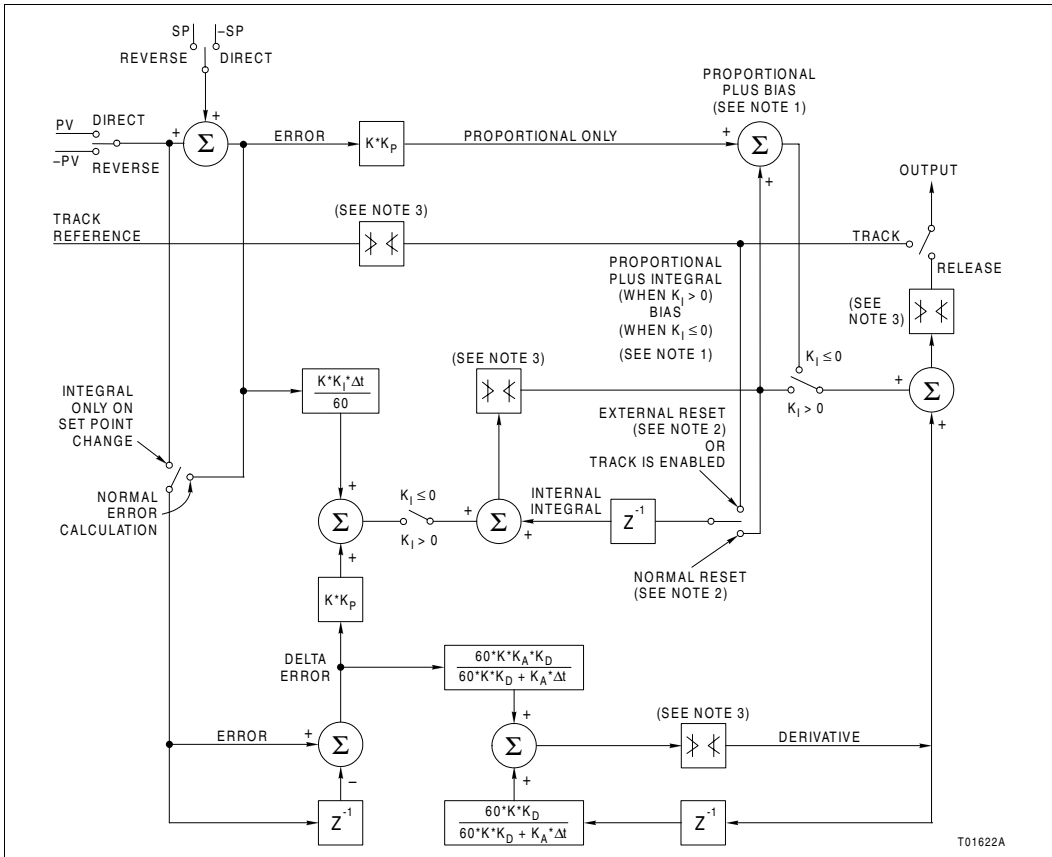
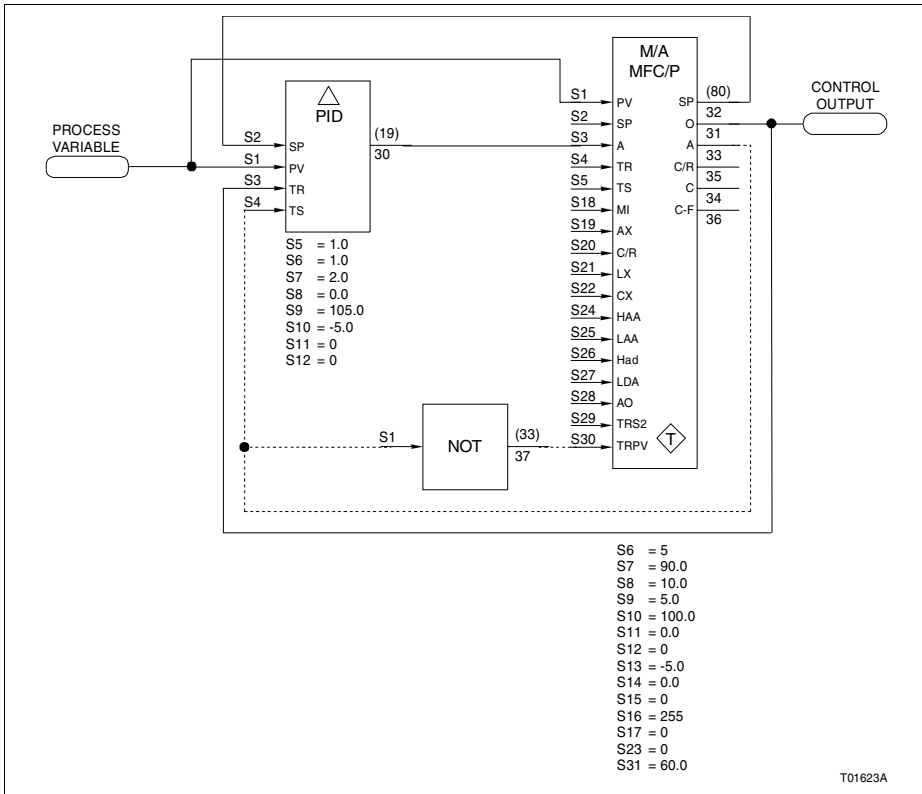

Figure 19-1. PID (PV and SP)
Figure 19-2. PID Control with Deviation
Refer to Figure 19-1 for an illustration of the PID algorithm for function code 19.
- S5 The purpose of the gain multiplier (S5) is to convert or scale the output. Typically it is used to convert the output to percent for input to a station or output to a field device. Figure 19-2 shows an example.
Figure 19-1 illustrates the PID algorithm for function code 19. Figure 19-2 shows how the PID block is typically used with a station in a control loop.
Notes for Figure 19-1